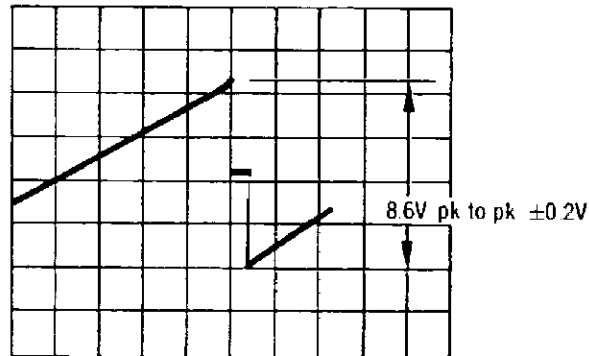

Figure 5-27. YTF DAC Adjustment
6. Adjust A5A5R60. Peak for a voltage reading of 8.6V peak to peak $\pm 0.2V$. See figure 5-27.